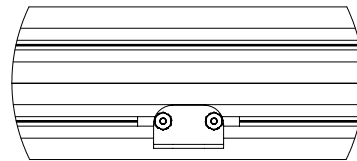

Figure 26 - Nuts on sliding brackets
2. Loosen nuts on the brackets on the back of the fixture (*figure 26*).